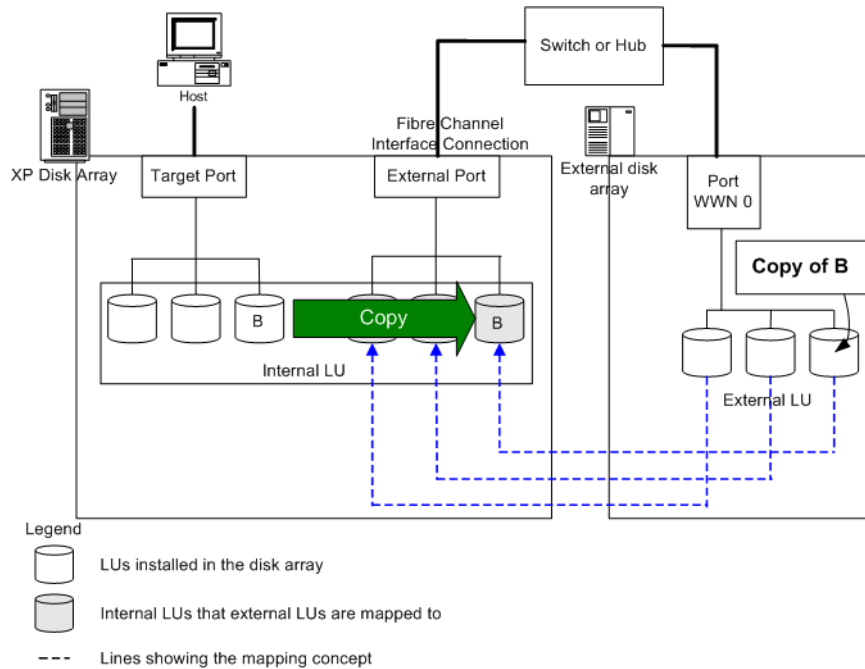

Figure 304: Copying data from an XP disk array to an external LU
Figure 304 shows the concept of copying the data in an XP LU to an external LU. The LU in the XP disk array (B) is copied to the mapped external LU using Flex Copy. Note that during the Flex Copy copy operation, the host cannot access the internal LU B.